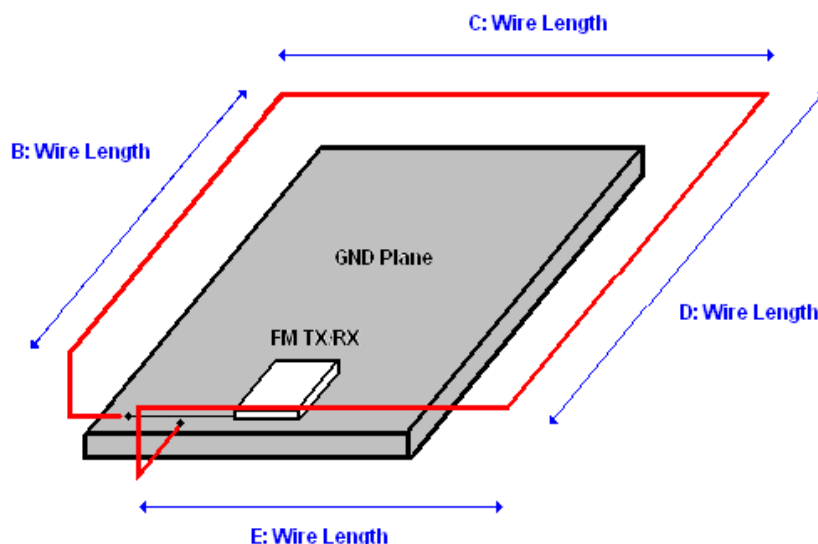

Figure 16. Rectangular Loop (Wire) Antenna—Orthogonal View
- Route the antenna as shown in Figure 16.